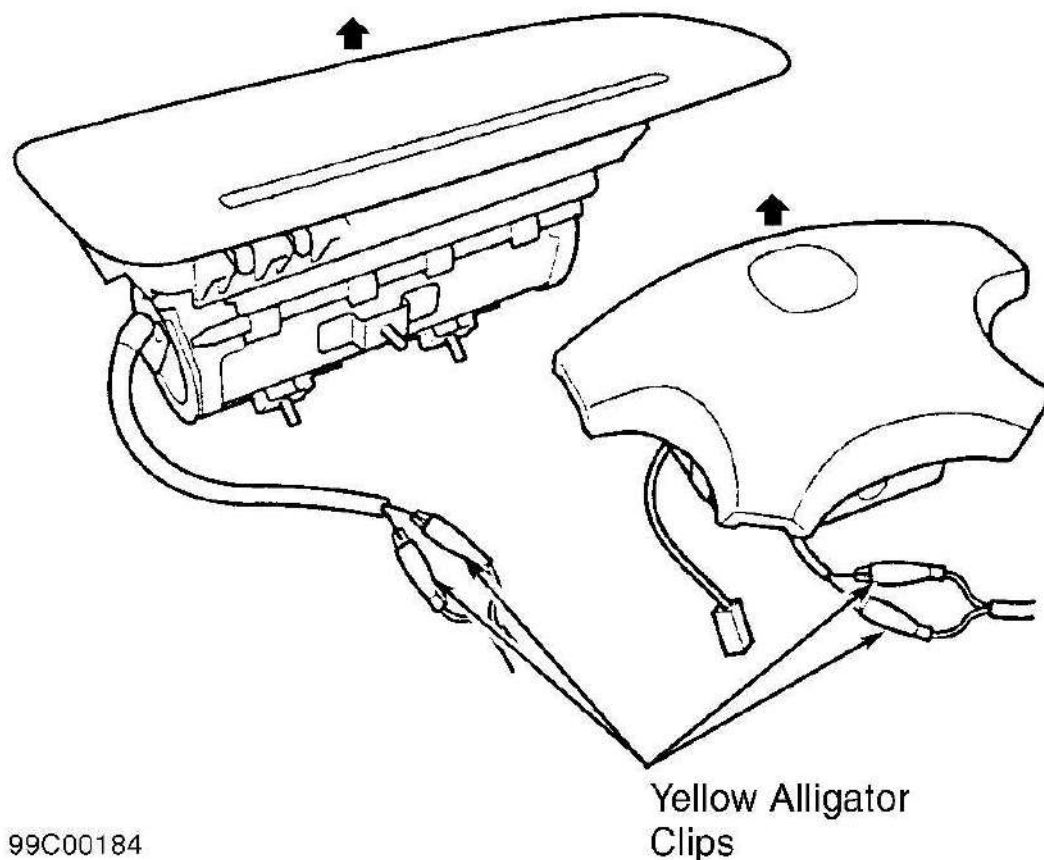

Fig. 5: Deploying Removed Air Bag
2. Position air bag assembly deployment side up, outdoors on flat ground and at least 30' (10 m) from people or obstacles. Cut off air bag connector, and strip back 1" of insulation from wire ends. Connect Yellow alligator clips of deployment tool to uninsulated wire ends. See **Fig. 5** . Place tool at least 30' (10 m) away from air bag.